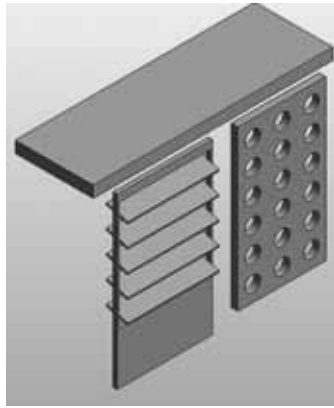

Figure 4: Three families: overhang, louver system, and panel.
Step 2: Create three Autodesk® Revit® families as solar controls in the conceptual modeler (see Figure 4).